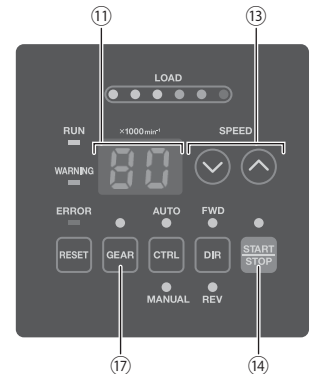

Fig. 28
- (4) Motor Start / Stop (Motor Start / Stop by pushing the START / STOP Button (START / STOP) ⑭ of the Fig. 28.)
- (5) Setting Motor Speed (Set the Motor Speed Adjustment Button (SPEED ▲, ▼) ⑬ of the Fig. 28.)
- (3) Setting Gear Ratio (Set the Gear Mode Select Button (GEAR) ⑰ of the Fig. 28.)
(5) Setting the Motor Speed
Setting parameter **P2** to ON allows the motor speed to be adjusted in Auto Mode using the Motor Speed Adjustment Button (SPEED ▲, ▼) ③ of the Fig. 28.